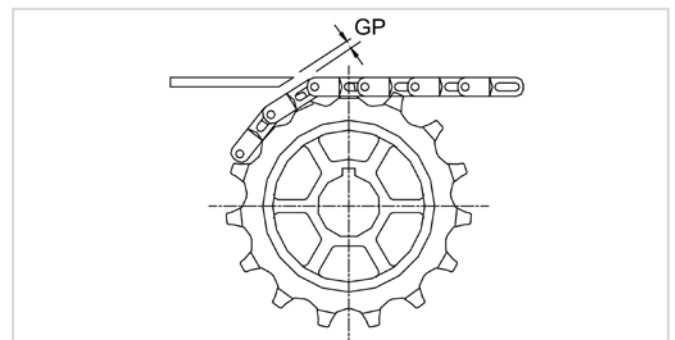

Fig. 3-32
Because most belts and chains consist of flat modules wrapping around sprockets there will be high and low points on the surface at the dead plate transfer. For this reason a gap (GP) is required between the dead plate and the belt surface to allow these high points to pass through. See fig. 3-32.